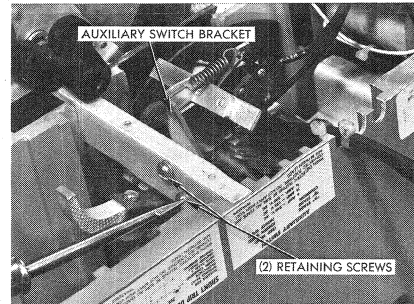

Fig. 13
*Note: If equipped with a shunt trip, the cut-off auxiliary switch assembly located under the accessory mounting plate must also be removed. To accomplish this remove the two bracket retaining screws as shown in Fig. 13. These screws are made easily accessible by first removing the left pole arc chute.*
2. If the mounting plate is equipped with a shunt trip device, install the cut-off auxiliary switch by replacing its two (2) bracket retaining screws, see Fig. 13 and left pole arc chute.